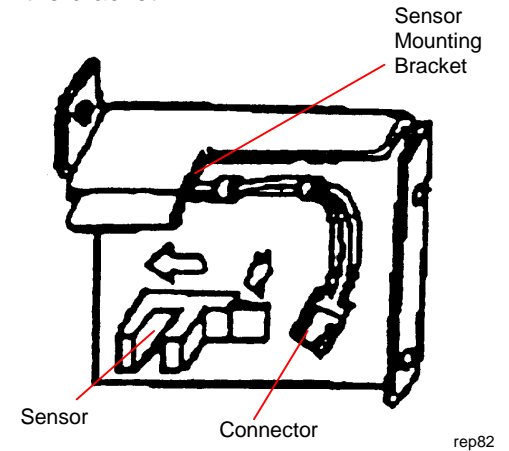

Figure 3. Removing the Sensor
- (Figure 3): Disconnect the connector and remove the Paper Feed Clock Sensor from the bracket.